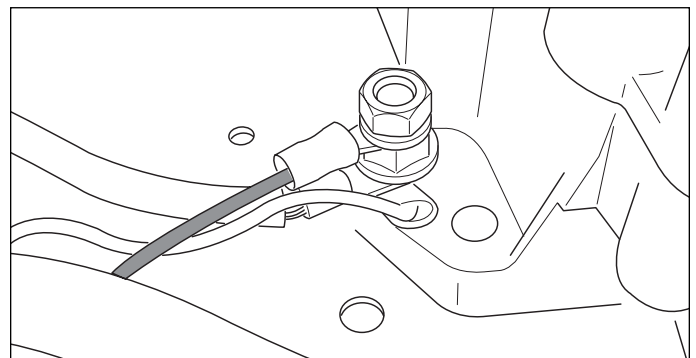

Figure 2. Connect Ground Wire To Engine Bolt
7. Install the ring end of the new ground wire over the engine mount bolt. Secure with the 5/16" lock washer and 5/16-18 hex nut. See Figure 2.